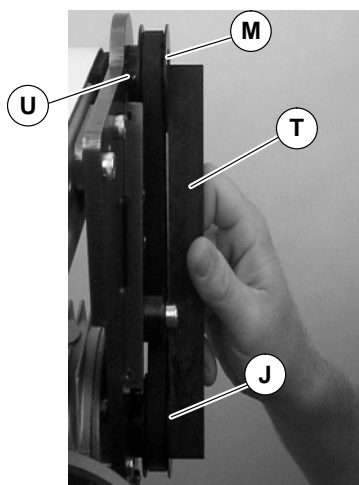

Figure 9
6. Wrap timing belt (P) around driven pulley (M) and drive pulley (J). Install driven pulley (M) onto conveyor shaft.
7. Using a straight edge (T of Figure 9), align driven pulley (M) with drive pulley (J). Tighten driven pulley set screws (U).